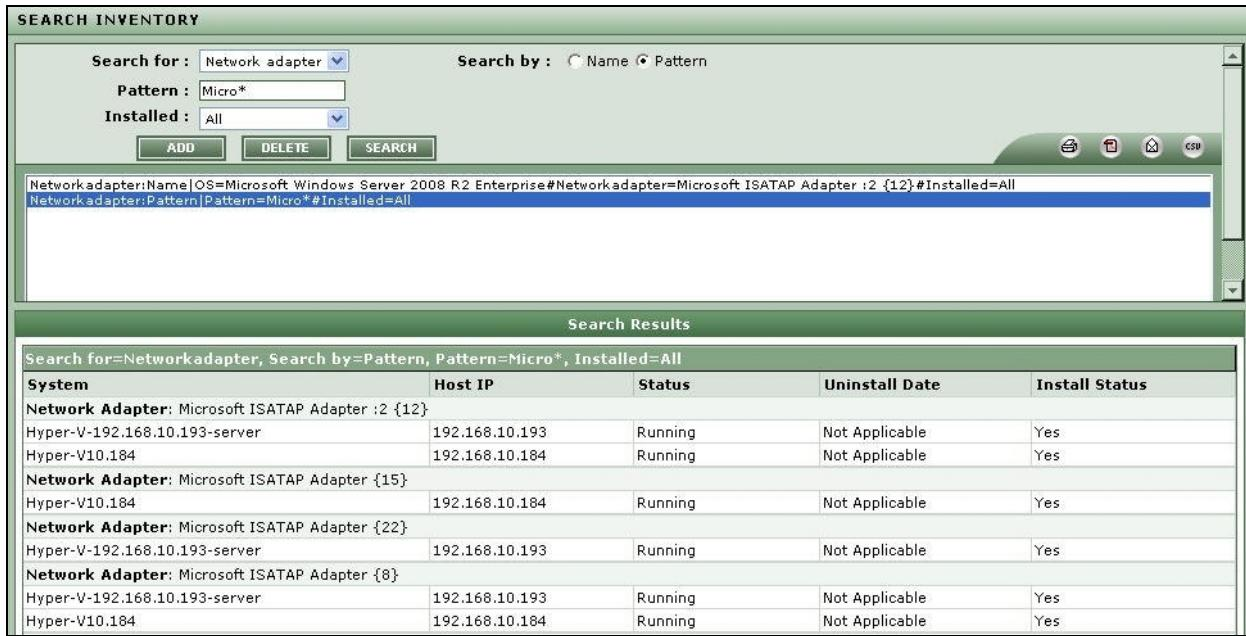

Figure 2.38: Inventory search of a network adapter through pattern wise
5. On the other hand, choose the **Pattern** option against **Search by** as depicted in Figure 2.38, if you want to search for those adapters with names that match a specified pattern. Upon selecting this option, you will be required to provide a comma-separated list of *Patterns* to search for. You can either provide the whole/part of the adapter names in the **Pattern** text box, or use wild card characters to indicate the patterns. For instance, to look for adapters with names that begin with the strings 'Q123' and 'C425', your **Pattern** specification can be: *Q123*,C425**. To search for all network adapters, simply enter *** in the **Pattern** text box. If you want to view the list of systems on which the adapters that match the specified patterns are still available, set the **Installed** flag to **Yes**. This will invoke a **Display Columns** list from which you can select the installation details that you want displayed in the result set. To view the list of systems from which the adapters that match the configured patterns have been uninstalled, set the **Installed** flag to **No**. To view the details of all network adapters that match the configured patterns, regardless of whether they were installed/uninstalled from a system, set the **Installed** flag to **All** (see Figure 2.38).